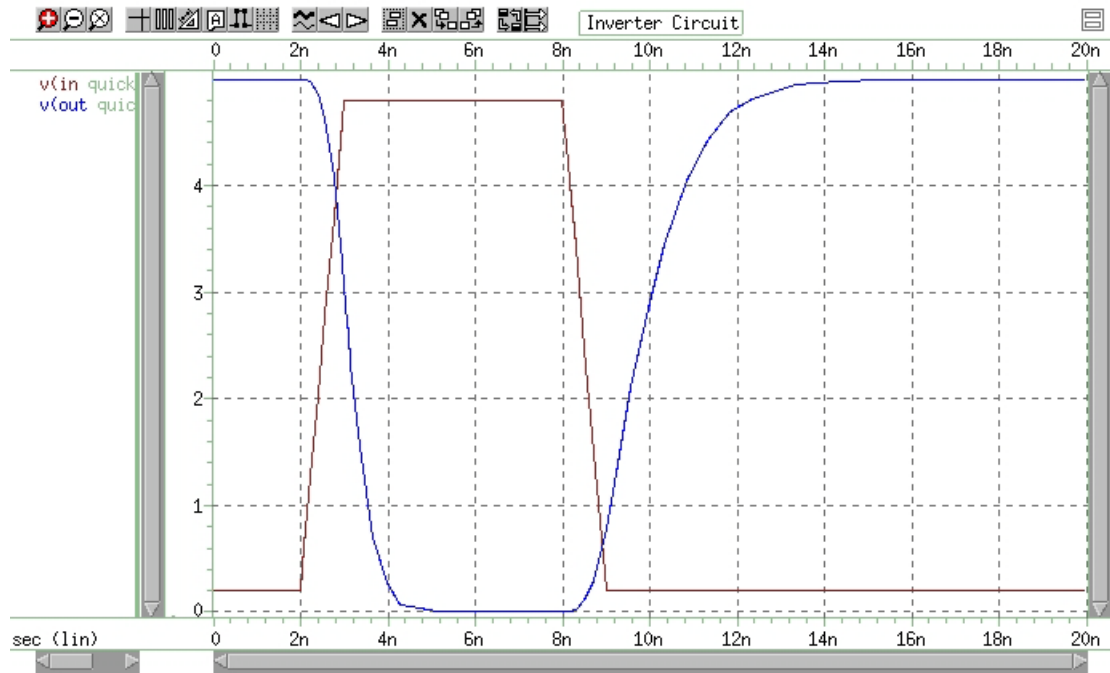

Figure 58 Voltage at MOS Inverter Node 1 and Node 2
3. Use WaveView to examine the voltage waveforms, at the inverter IN and OUT nodes. Figure 58 on page 528 shows the waveforms.